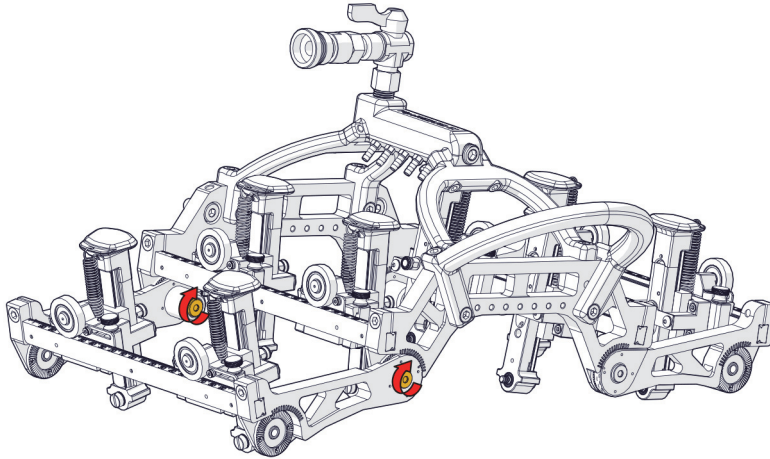

Figure 1-53 Tightening down the screws
6. Tighten down the screws fully (see Figure 1-53 on page 63).